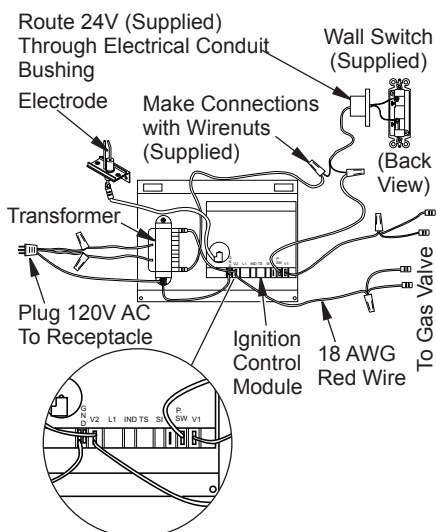
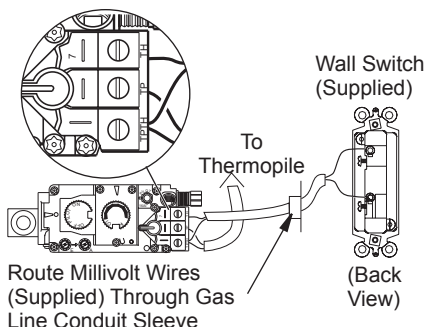

Figure 34 - Wall Switch Wiring Diagram, Electronic Units
Figure 35 - Wall Switch Wiring Diagram, Millivolt Units
Since the (V)DVF36TPNEA/TSTEA series uses a 24 VAC current supplied from a transformer mounted on the ignition module and is prewired for easy connection to a wall switch (see Figure 34). The (V)DVF36TPNA/TSTA models use a self generated millivolt current that allows you to activate the gas control valve directly without the use of normal household electricity (see Figure 35). Both versions are supplied with a wall switch kit for ready connection and mounting.
2. If a wall switch was installed, it must be removed from ignition control circuit for remote to work properly. Remove wire nuts from switch connection at ignition control module. Using wire nut, connect transformer (blue) wire to remaining wire connected to control terminal marked P.S.W (see Figure 34, page 22).